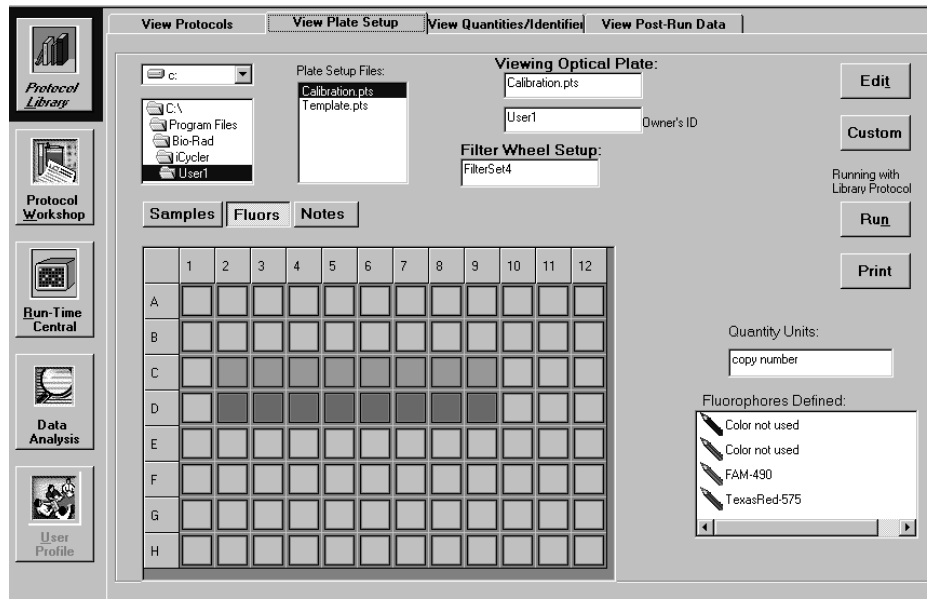

Fig. 4.3. Protocol Library / View Plate Setup window, Fluors view.
- **Fluors** button: Displays the fluorophore to be analyzed in each well (see Figure 4.3). Wells that will be analyzed are shown in a color. The fluorophore associated with the color is identified in the Fluorophores Defined field box. Wells that will not be analyzed displayed in gray.